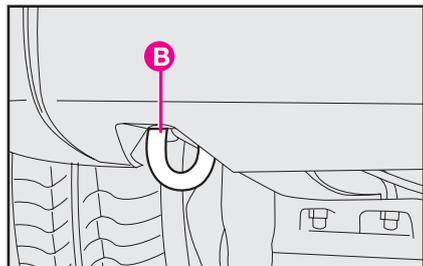

fig. 47
**B-fig. 47** - Rear ring for towing another vehicle.